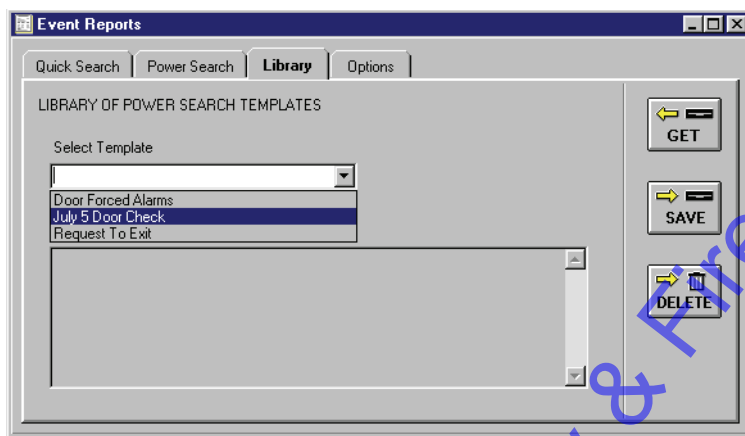

Figure 7-38: List of Saved Search Expressions
2. In the Select Template field, click on the  box and a list of available search expressions is displayed (see Figure 7-38).